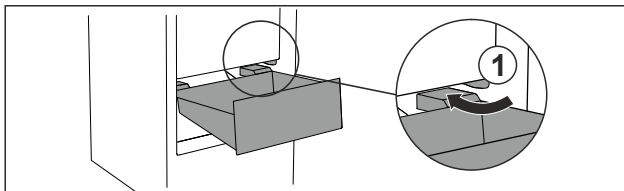

Fig. 73
- ▶ Guide drawer in at an angle around the stoppers Fig. 73 (1).